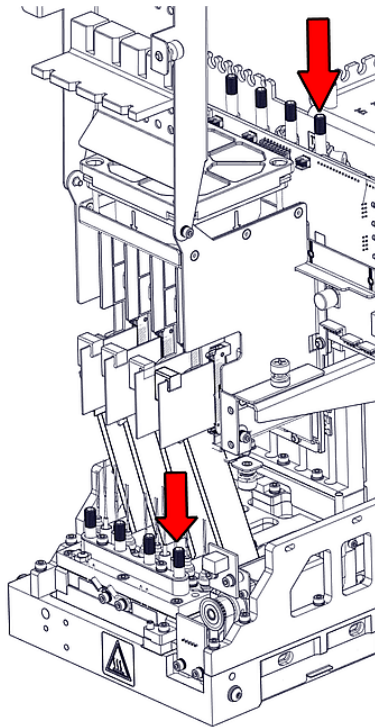

Figure 4-81 Releasing the print head
19. Tighten the upper and lower screws that secure the print head in the print block (see Figure 4-81 on the previous page).